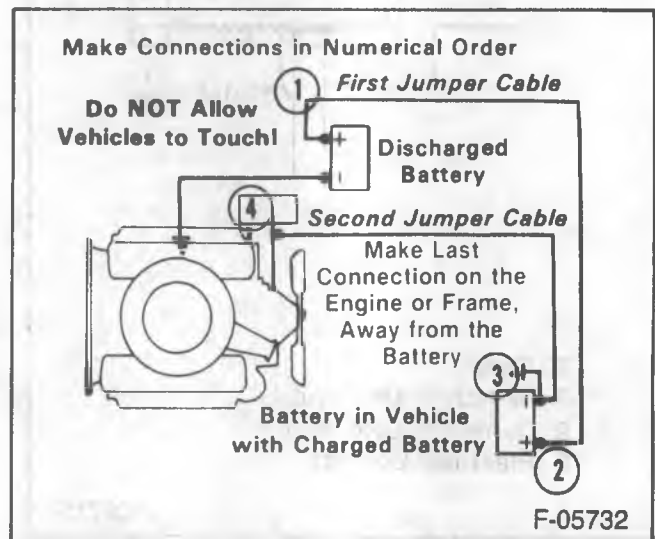

Figure 11 — Jump Starting Connection
3. Making sure the cable clamps do not touch any other metal parts, clamp one end of the first booster cable to the positive (+) terminal on one battery, and the other end to the positive terminal on the other battery (figure 11). Never connect (+) to (-).